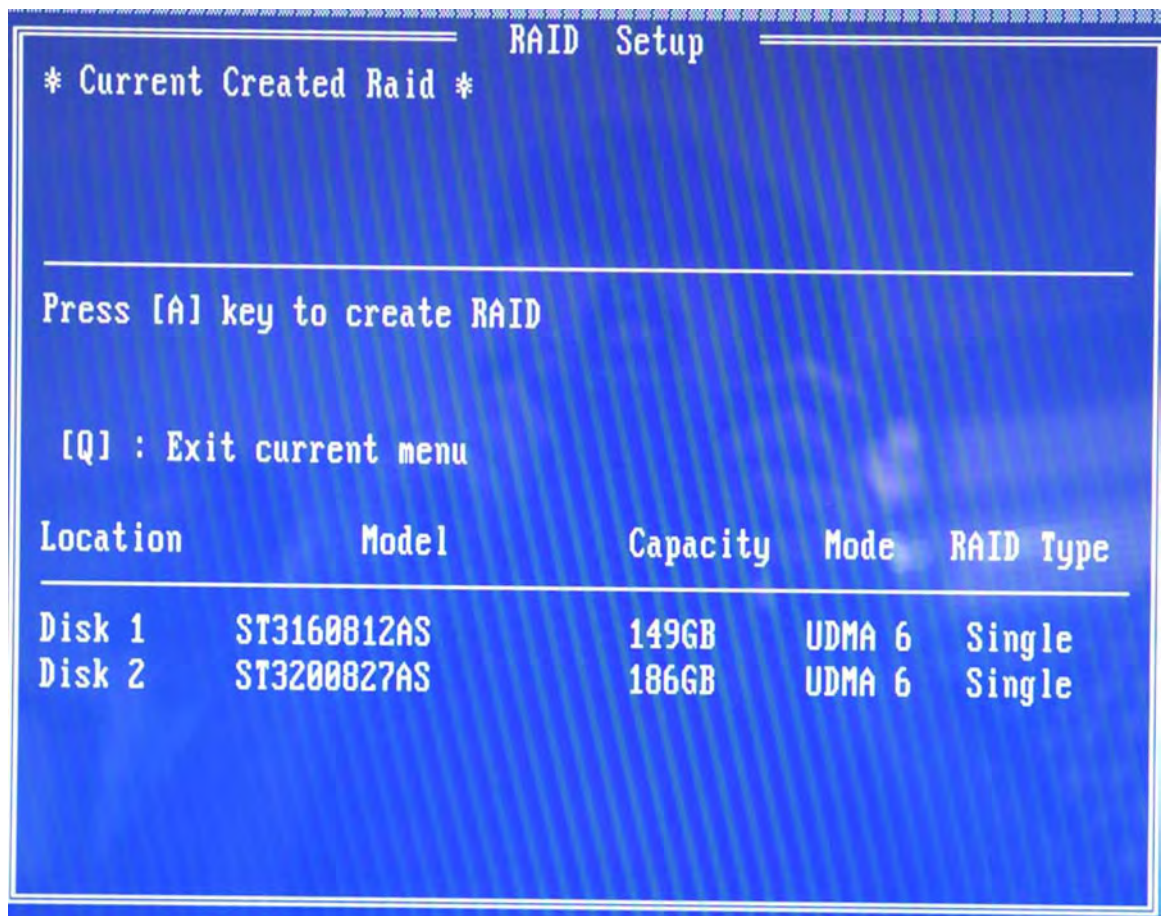

Figure D-5: Create RAID
Step 3: To setup the RAID, press "R." The RAID setup screen will appear (see **Figure D-5**).
- Step 4:** Click "A" to setup the RAID(see **Figure D-5**).